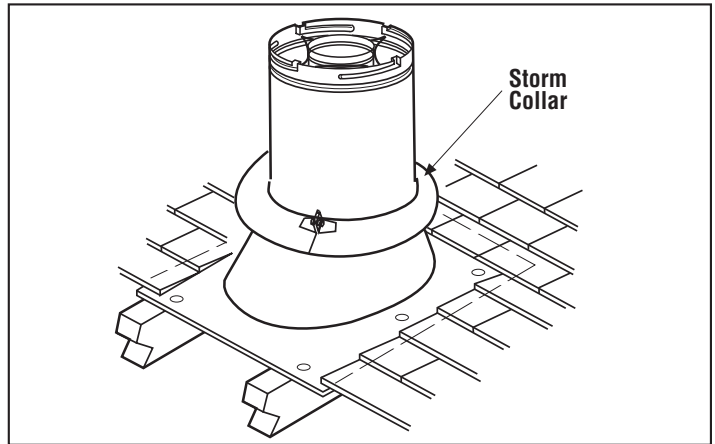

Figure 20 - Installing the Storm Collar
- 11. Install the storm collar**—Install the storm collar, supplied with the flashing, over the vent/flashing joint (Figure 20). Loosen the storm collar screw. Slide collar down until it meets the top of the flashing. Tighten the adjusting screw. Apply non-combustible caulking or mastic around the circumference of the joint to provide a water tight seal.